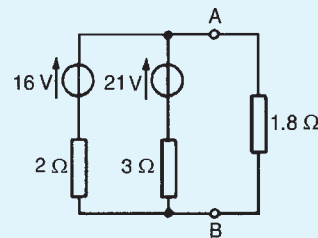

Figure 13.78
- (a) Convert the network to the left of terminals AB in Fig. 13.78 to an equivalent Thévenin circuit by initially converting to a Norton equivalent network.
- (b) Determine the current flowing in the 1.8Ω resistance connected between A and B in Fig. 13.78.